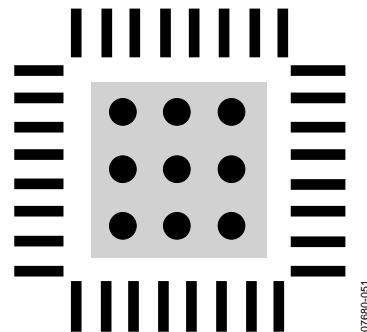

Figure 66. Exposed Pad Layout Example, Top View
- Vias should be placed to connect all layers of copper, allowing for efficient heat and energy conductivity. For an example, see Figure 66, which has nine vias arranged in a 3 inch \times 3 inch grid in the pad area.